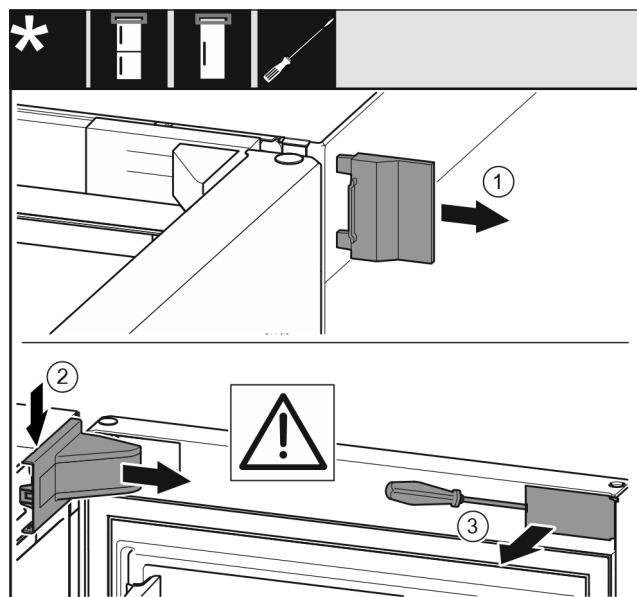

Fig. 10*
- ▶ Remove the outer cover. Fig. 10 (1)*
- ▶ Disengage and release the bearing bracket cover. Remove the bearing bracket cover. Fig. 10 (2)*
- ▶ Unlatch the panel with a slotted screwdriver and swivel it to one side. Fig. 10 (3)*